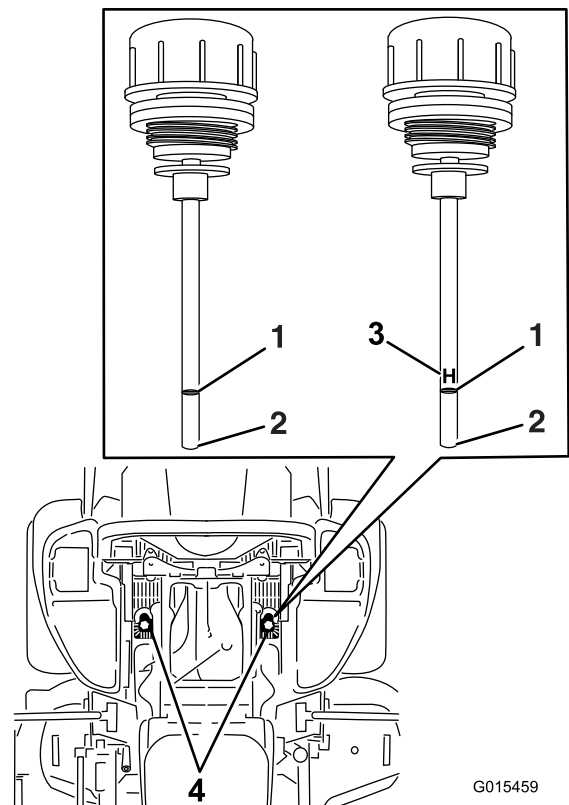

Figure 82
6. Clean the area around the dipsticks of the hydraulic system reservoirs (Figure 82).
7. Remove one dipstick from the hydraulic reservoir (Figure 82).
9. Remove the dipstick and look at the end (Figure 82).